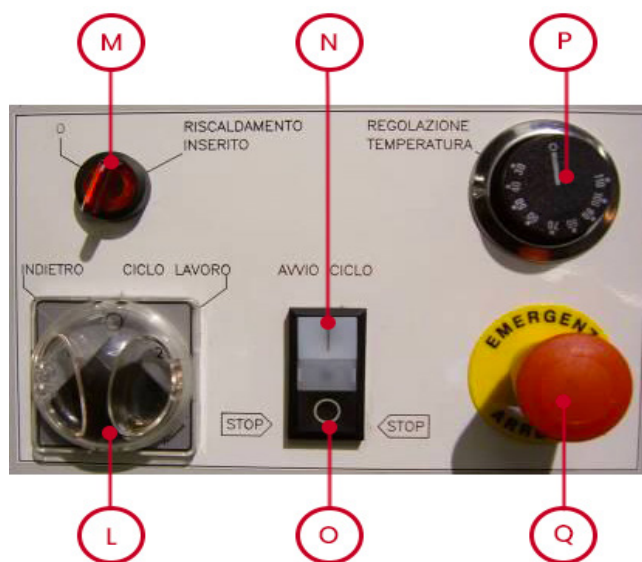

Fig. 7
4.2 KNIFE HEATING (fig. 7)
4.3 INSTRUCTIONS FOR USE (fig. 7 - Side view)
Check that the main switch (L – fig.7) is set to 'work cycle'.	The clutch slips. Adjust pressure as necessary (see section 3.3)